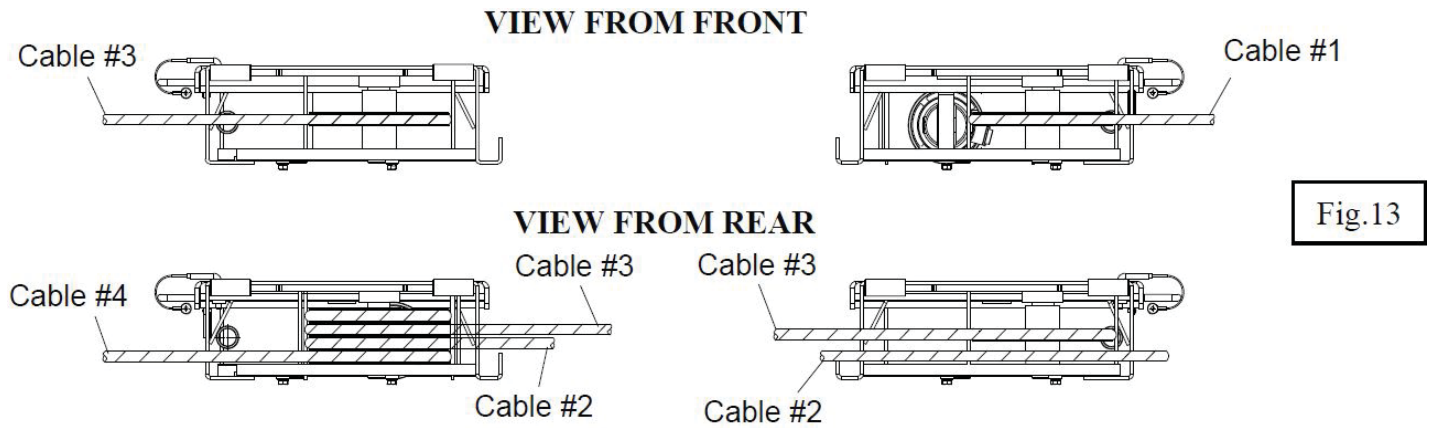

Fig.13
- Route the cable ends through the beam openings as shown in fig.13 and fig.14. Make sure that the cables are not twisted and routed on the correct pulleys in runways. Make sure to route the cables through the retainer before attaching them to the holder. Do not assemble the cable pulleys in the beam ends at this time.